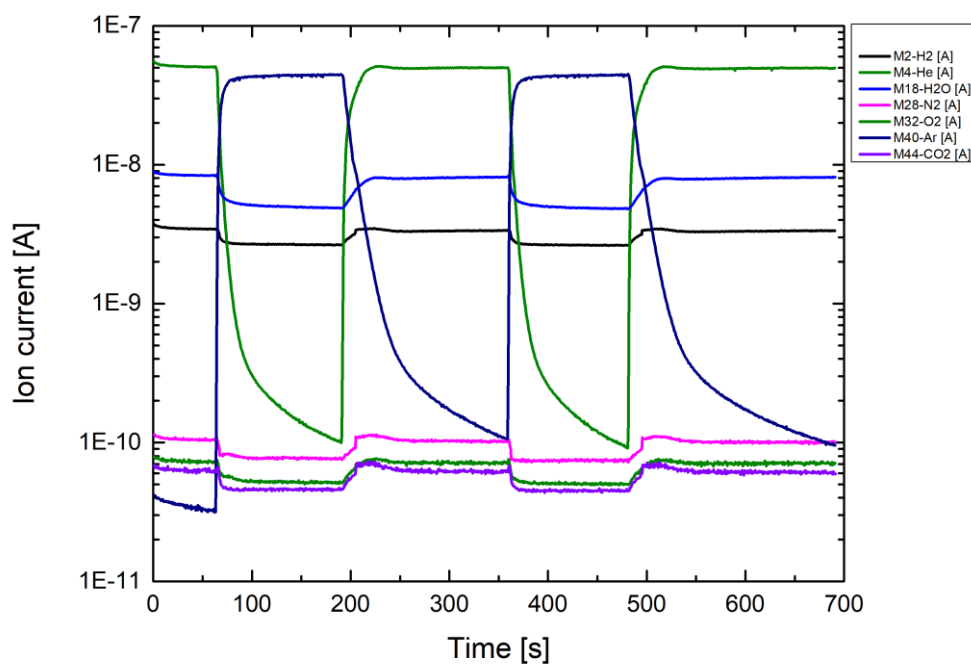

Figure 40. Argon gas pulses sent via the gas exchange system to the sample. EC-cell mounted and filled with 0.1 M aqueous perchloric acid electrolyte.
As an application example of the gas exchange system, this section will describe how gas pulses can be sent to the sample. In Figure 40, a plot of two Ar gas pulses is shown.
- As shown in Figure 40, when switching from He to Ar, it takes approximately 20 seconds for the $m/q=4$ signal to drop by two orders of magnitude